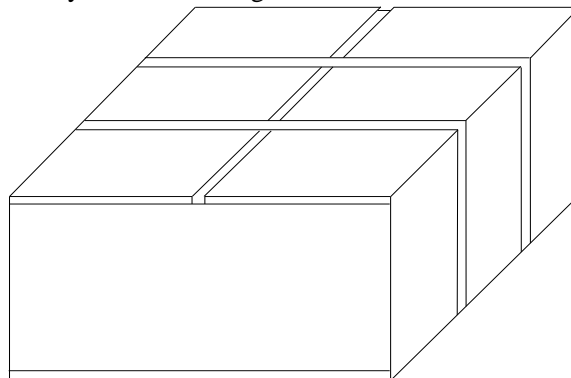

Figure 3-7 Place the box smoothly
Step 1 Place the box smoothly as shown in Figure 3-7;